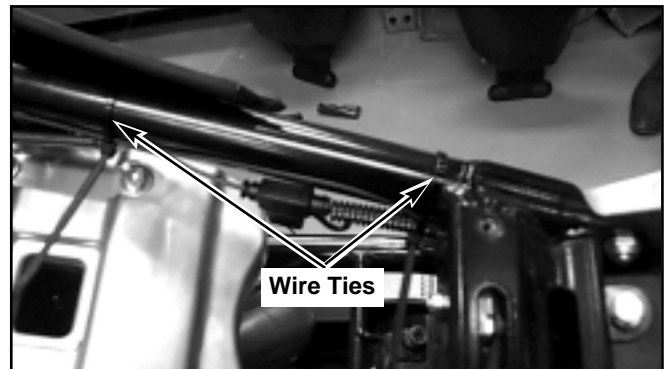

**Figure 11. Connect Harnesses to Thermostat**
17. See Figure 11. Connect spade terminal wire from each harness to the spade terminals located on the thermostat switch. Order of connection makes no difference.